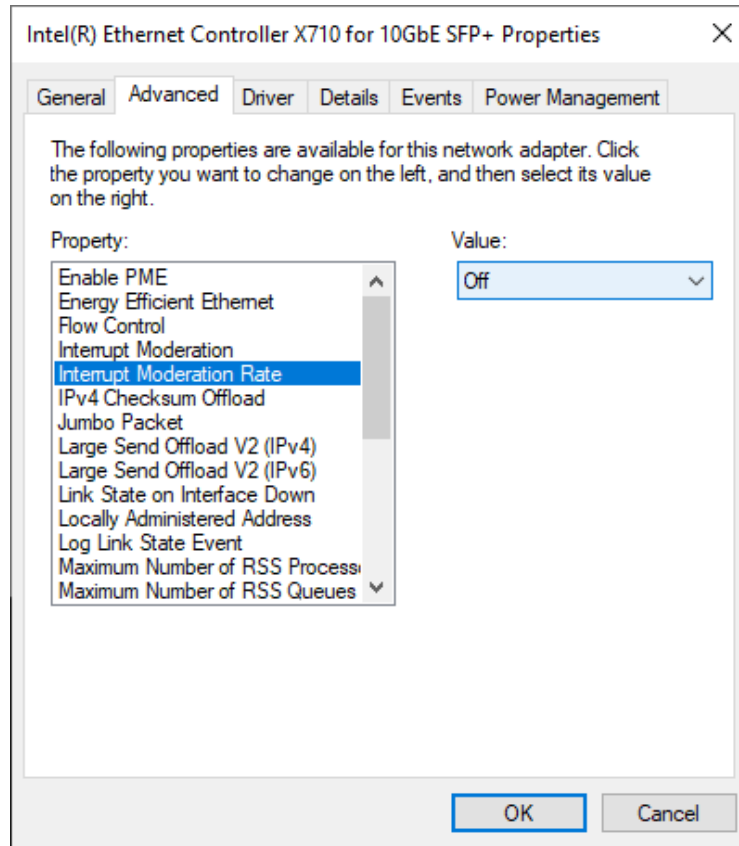

Figure 7 Interrupt Moderation Rate
2) On “Interrupt Moderation Rate” window, set value to “OFF”, as shown in Figure 7.